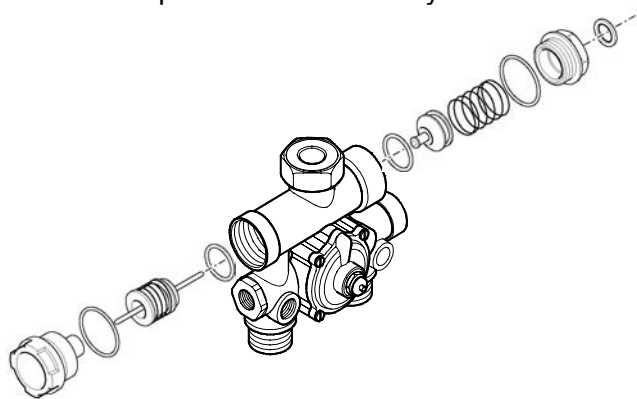

Figure 9
- 9) Remove the diverter group and refer to the exploded view (Figure 9) to remove the internal parts of the three way diverter valve.